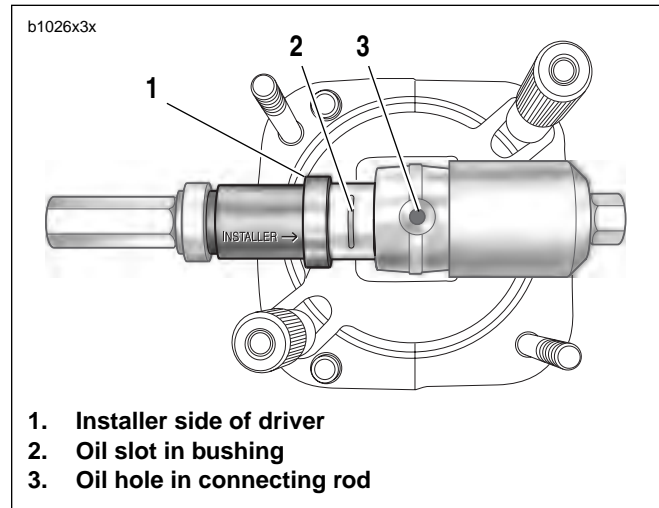

Figure 3-100. Installing New Wrist Pin Bushing
6. See Figure 3-100. Place **new** bushing between connecting rod and driver.